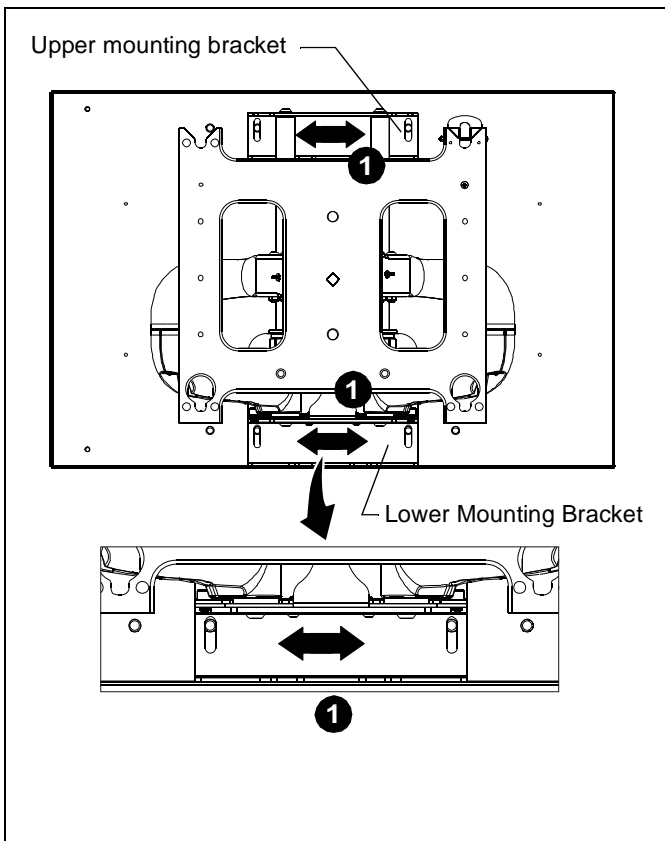

Figure 1
1. Align mounting holes in swing arm (A) UPPER and LOWER mounting brackets with four mounting holes in PAC501 (not included). (See Figure 1)